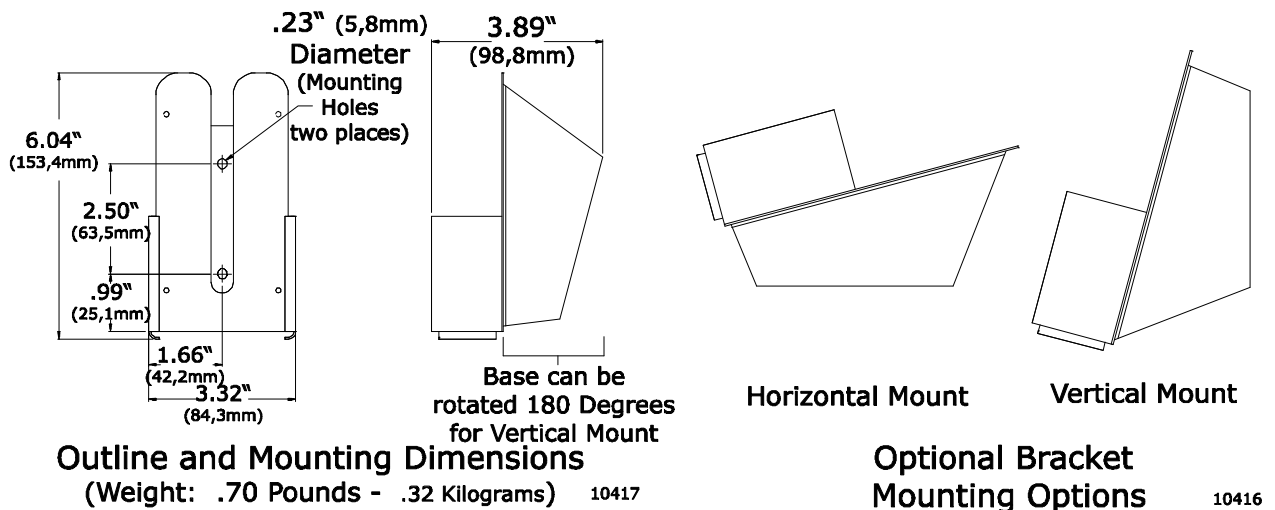

Figure 4 – Optional Bracket Mounting
| FIGURE 4 – OPTIONAL BRACKET MOUNTING | 4 |
- Secured in a holding bracket (refer to Figure 4)